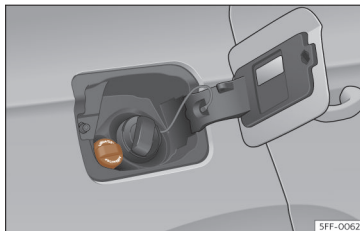

Fig. 208 AdBlue tank cap.
- Open the tank cover >>> **Fig. 208**.
- Turn the SCR tank cap anti-clockwise >>> **Fig. 208**.